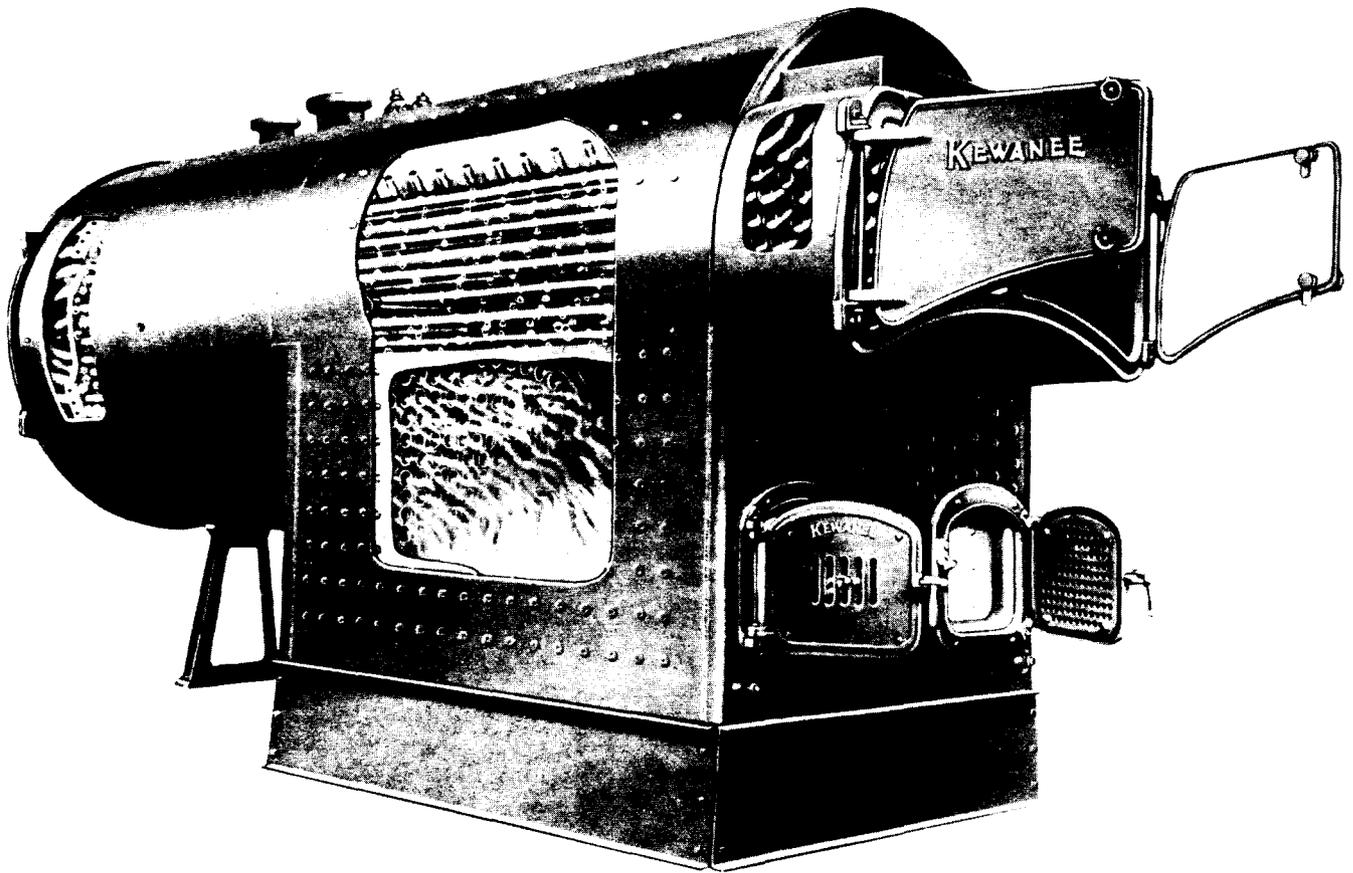

Fig. 6—Short Firebox Water-Leg Boiler (Industrial Division, American Radiator and Standard Sanitary Corp)
**4.04** Internal furnace boilers may have the furnace in the form of a straight flue completely surrounded by water as in the Scotch type, or may have the furnace substantially surrounded as in a firebox boiler where the water cooled surface is brought down to grate level on each side but is omitted on the bottom. See Fig. 6 and 7.